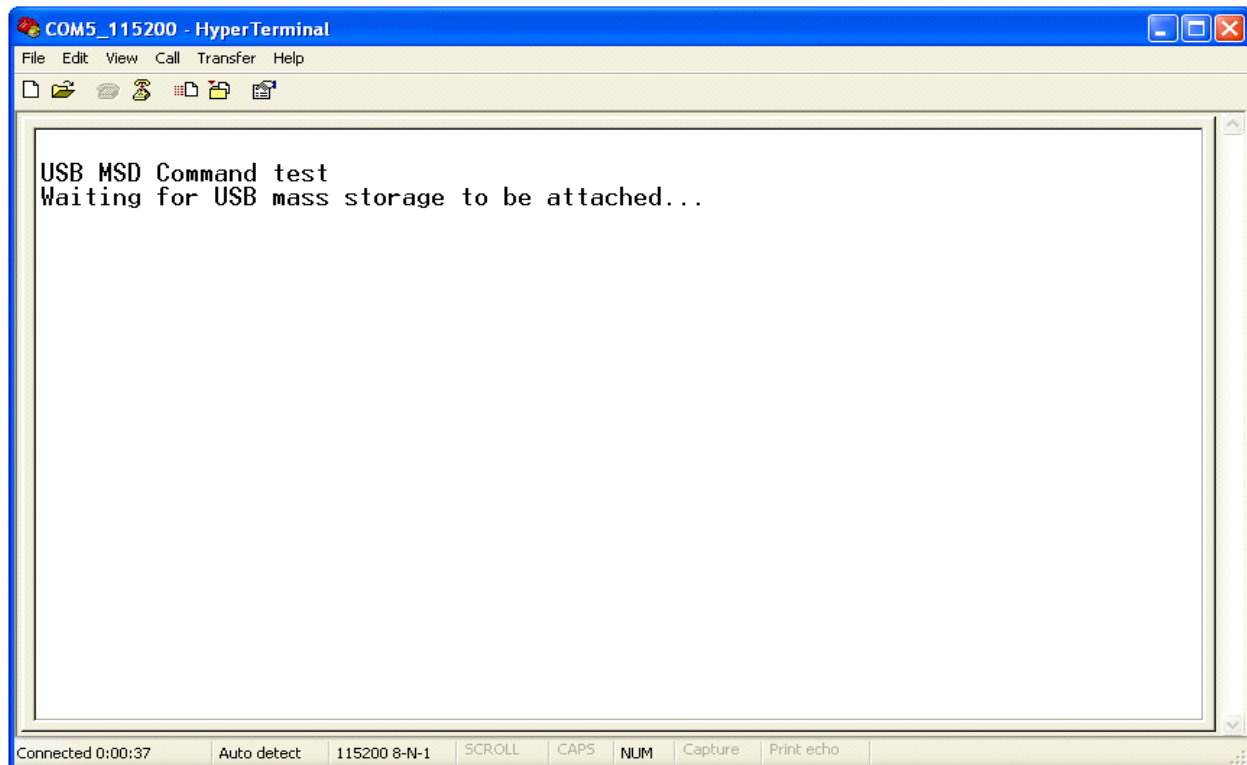

Figure C-1. USB Host waits USB mass storage to be attached
2. Run the Demo. The HyperTerminal displays a message as shown in Figure C-1.